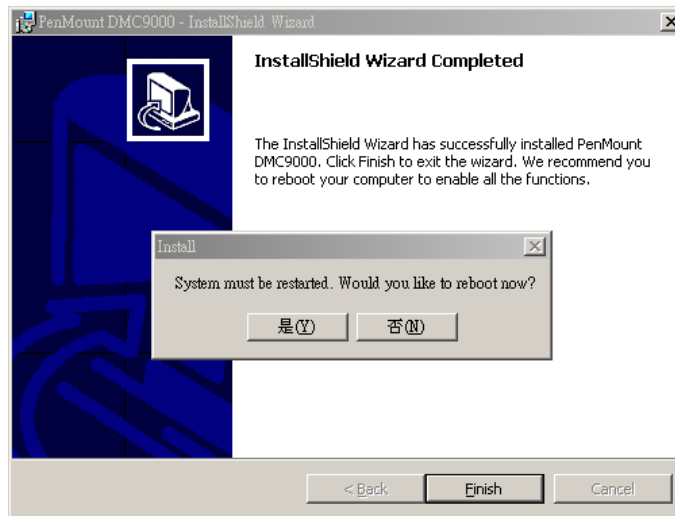

Figure 7-29: Reboot the Computer
Step 7: The user is then prompted to select to restart the computer now or later (Figure 7-29). For the settings to take effect, the computer must be restarted. Click **Yes** to restart the computer.